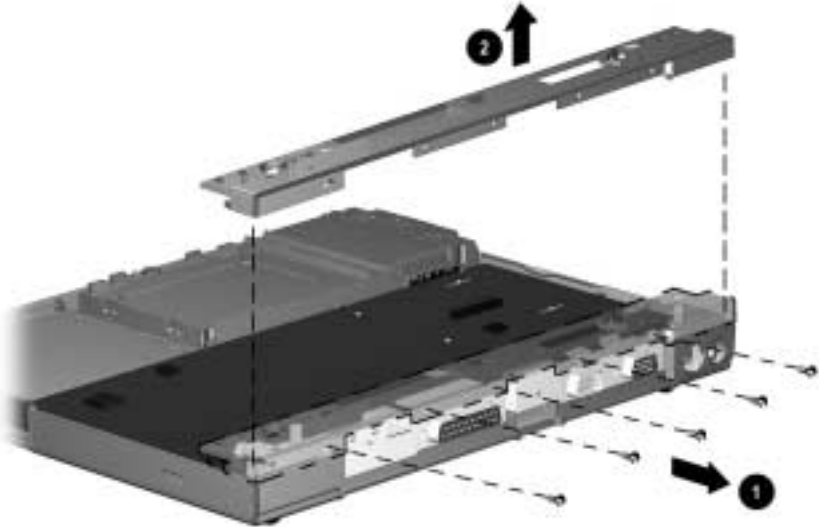

Figure 5-30. Removing the Speaker Housing
- 6. Remove the five screws securing the speaker housing to the base assembly ❶ (Figure 5-30).
- 7. Remove the speaker housing ❷.